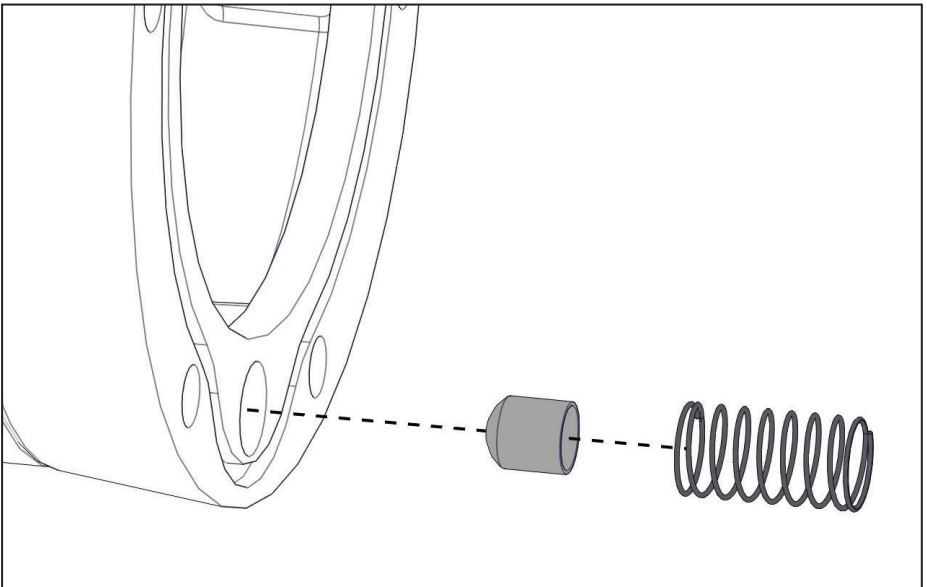

Figure 28 — Install thimble screen and spring
- ☐ Install the new thimble screen and spring (Figure 28).